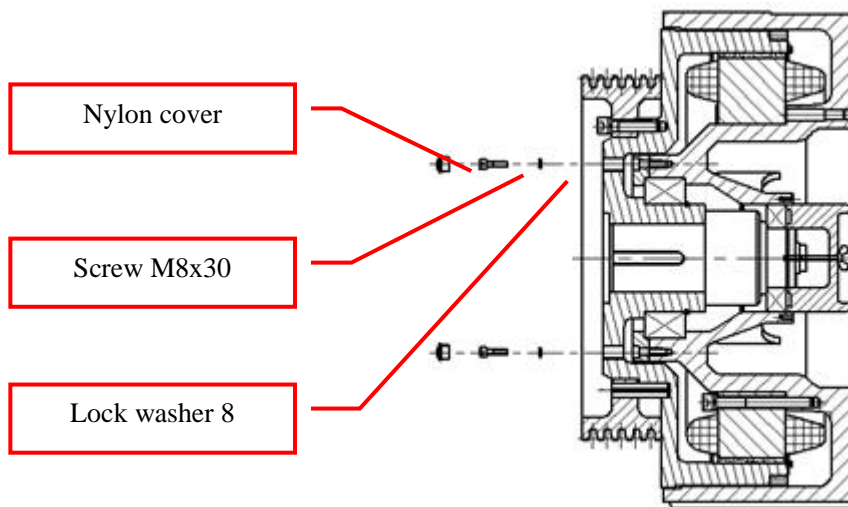

Figure 68: Install M8 screws and Nylon cover
6. Turn the sheave to align the M20 holes with the M8 threaded holes of the outer pressing cover. Then install screws M8x30 and lock washers 8 to secure. The tightening torque is 20Nm. Then install the nylon covers M20x1.5 onto the end face of the sheave and tighten them with screwdriver. See Figure 68.